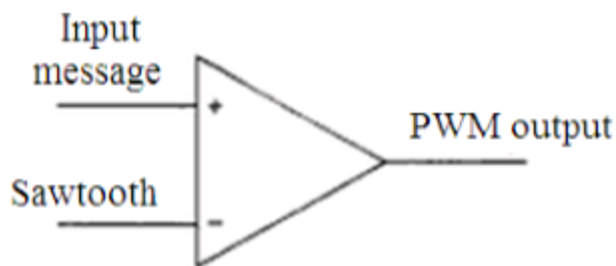

Fig5. PWM generation by a comparator
- The PWM generation is explained with the help of the Fig5 given below.